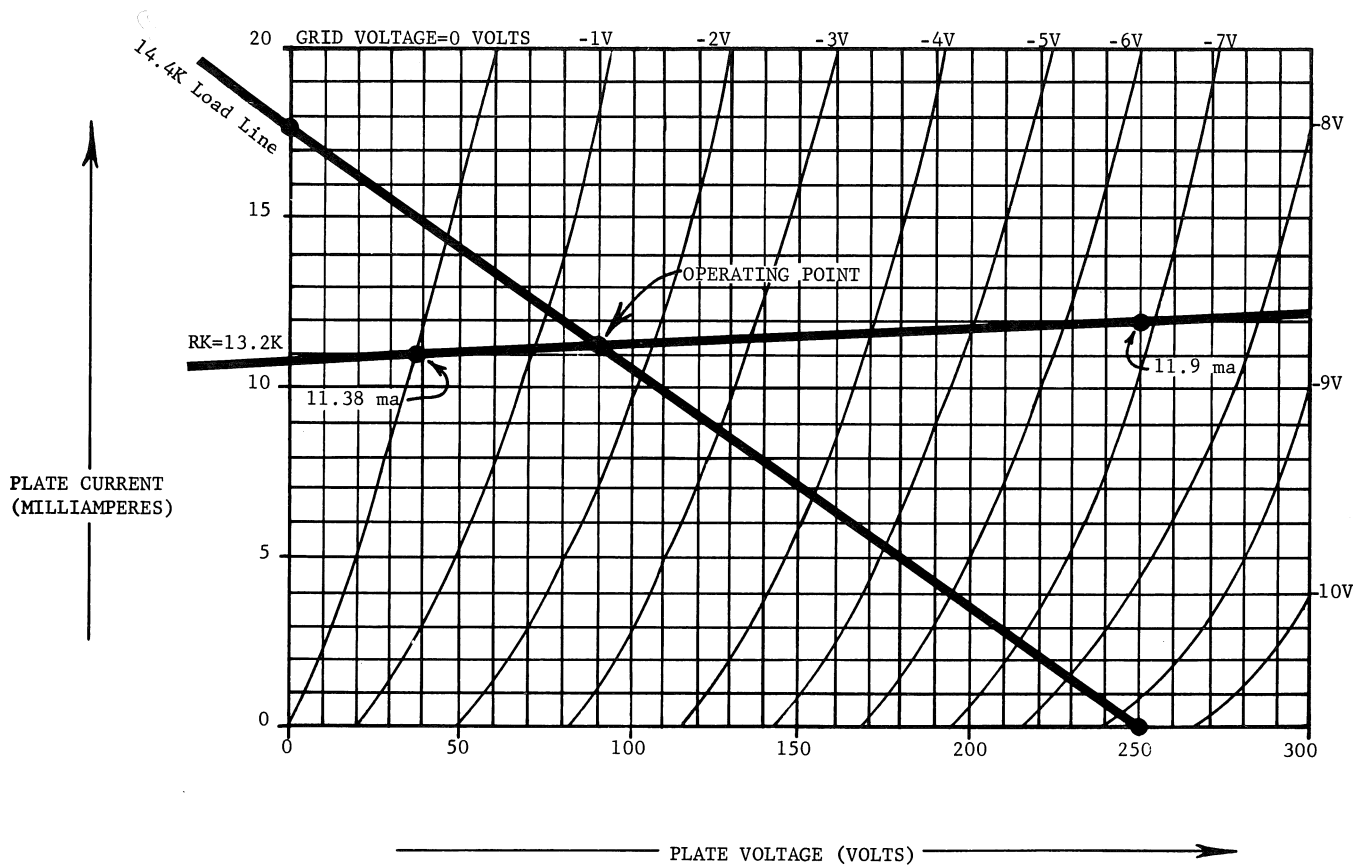

Figure 12
4. -21.8 volts at V145B grid holds it cut-off. This can be seen on the type 6DJ8 plate characteristic curves (Figure 12). With the cathode to plate voltage at 100, it takes a grid bias of only -3.5 volts to achieve cut-off.
10. Using the type 6DJ8 tube characteristic curves in (Figure 12) we can prove out the approximate operating point for V145A in the 'ready' or maximum conduction state. Note that V145A plate is supplied by the +100 v supply from sweep switching diagram when HORIZONTAL DISPLAY switch is in 'B' display.